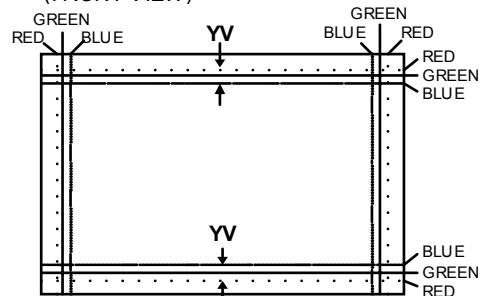

Fig. 4
2. Move the deflection yoke left to right to overlap the lines in the periphery, and match the Yv(VR1). (As shown in Fig. 4)